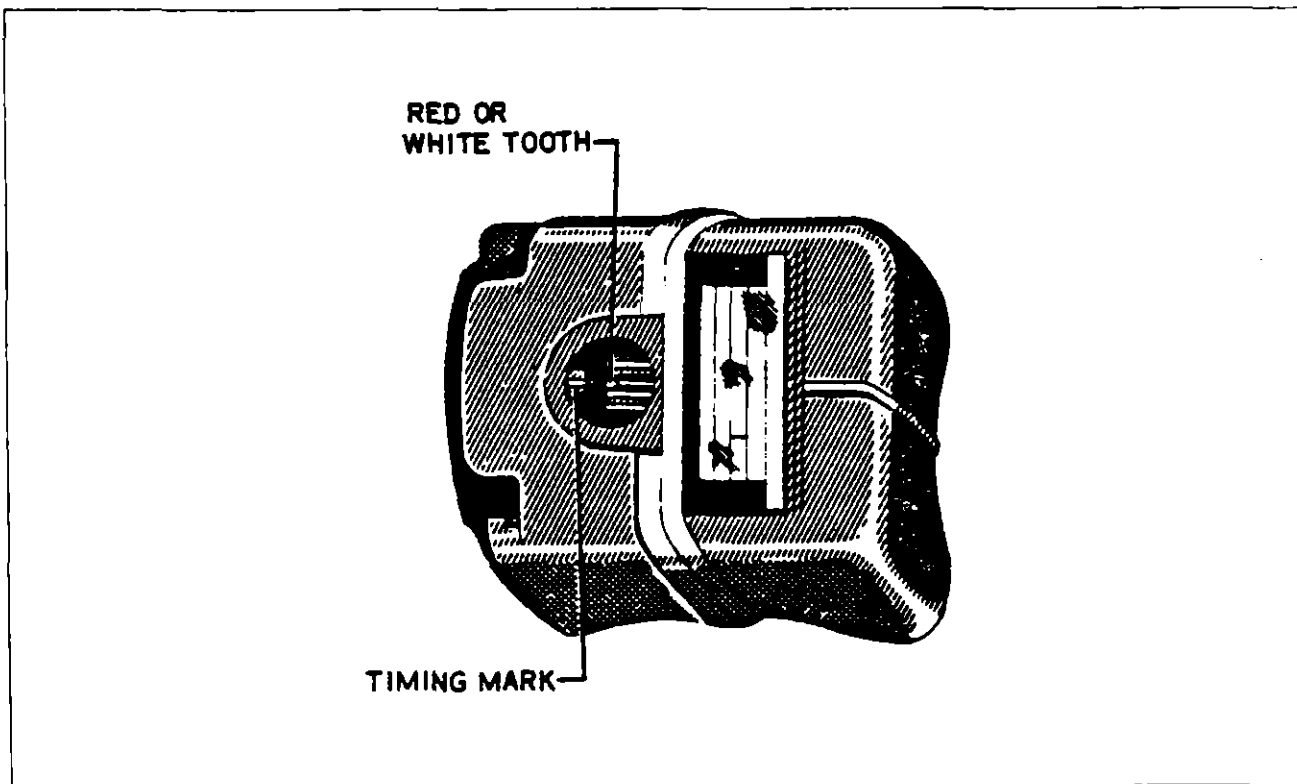

Figure 8-1. Magneto Timing Marks
- c. Rotate coupling from neutral in the direction of rotation 10 degrees. Appearing through timing hole, when the white or red tooth aligns with the white line of the distributor block the magneto is set at "E" gap. (Refer to Figure 8-1.)
- c. Rotate the drive gear on the magneto until the chamfered tooth on the distributor gear inside the magneto aligns with the white pointer as seen through the inspection hole in the magneto housing. (Refer to Figure 8-1.)